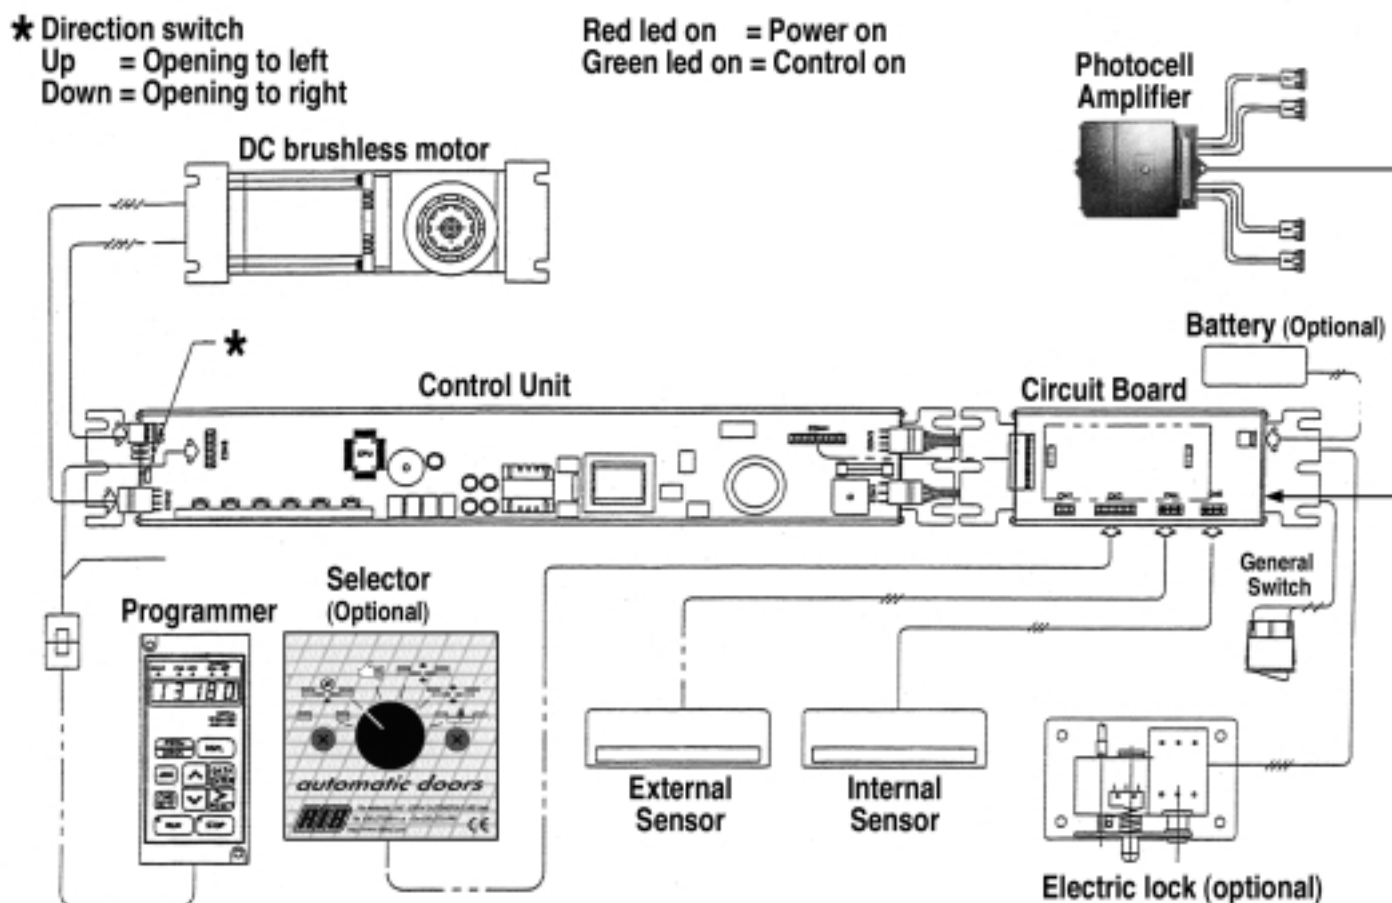

Fig.5
CONTROL UNIT INSTALLATION (fig. 5)
FINAL ASSEMBLY OF ELECTRICAL COMPONENTS (fig.5)
- 2) Switch on the system by means of the thermal cutout switch pushbutton. With the door in the mid-travel position, after waiting approx. ten seconds the door should open. However if it closes, switch off the system and move the microswitch on the side to the control panel near the red/green leds to the side of the 9-core connector (fig. 5) and switch on the system again.
- 1) Connect the programmer to the external connector (fig. 5).